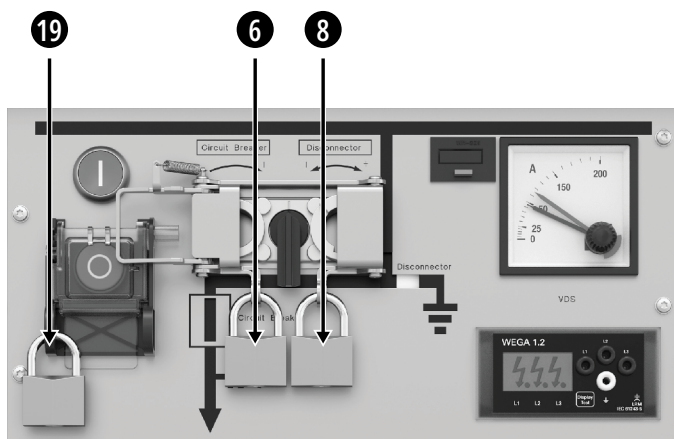

Figure 4-16: Padlock on the opening button
Hook a padlock (19) through the hole below the opening button while the push button is covered by the anti-reflex cap; see figure 4-16.
To prevent operation when this is not allowed, the switch control point and the change-over switch control point are each equipped with locking flaps. These locking flaps can be padlocked according to user company procedures, which are not described in this manual, see figure 4-16. The clips of these padlocks can be 1 - 8 mm.